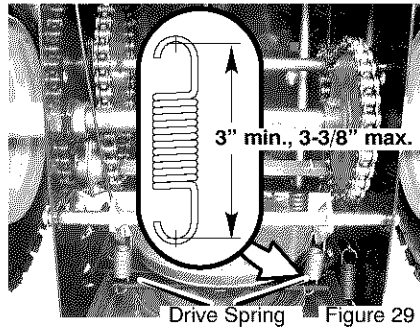

Figure 29
11. To check the adjustment, depress the drive lever and check the length of the **drive spring**. In correct adjustment, the length of the **drive spring** is 3" min., 3-3/8" max. (76 mm. min., 85 mm. max) (see Figure 29).